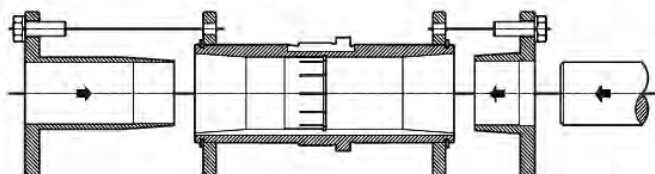

Figure 7 - Short Shaft Bushing and Output Hub Assembly
- The long bushing is designed to be installed from the side of the reducer opposite the driven equipment as shown in Figure 7. The long bushing, when properly installed, is designed to capture the end of the customer shaft that does not extend through the reducer. Normally the reducer would be mounted such that the input shaft extends from the side of the reducer opposite the driven equipment however the reducer design allows installation of the reducer to be mounted in the opposite direction.
- Install the tapered bushing wedge into the hollow bore of the reducer from the same side as the long bushing will be installed. When installing the tapered bushing wedge into the reducer hub, install the flange end first so that the thin taper is pointing outwards towards the long bushing as shown in Figure 7. The wedge is properly installed when it snaps into place in the reducer hub.